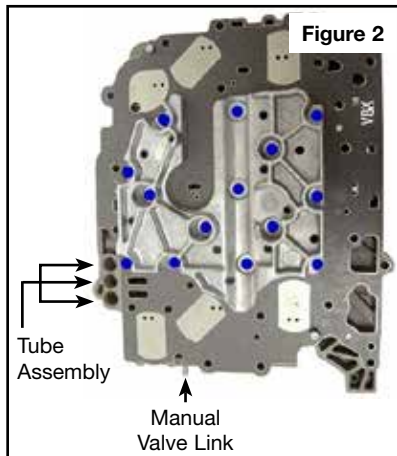

Figure 2
- Install the valve body onto case aligning manual valve and the three tubes in the tube assembly with the valve body (**Figure 2**). The valve body dowels should drop into the holes on the case.